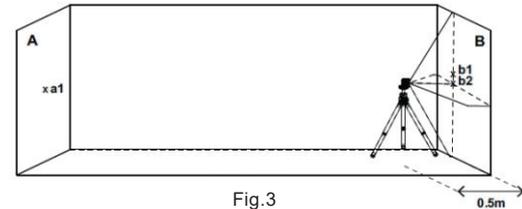

Fig.3
7. Mark on wall B the center of the cross lines as b2 (see figure 3).